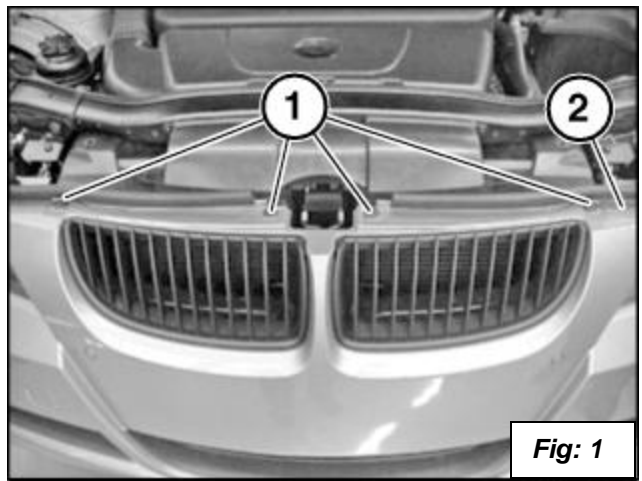

Fig: 1
3. Remove the front bumper. Start by removing four Torx screws (1) from bumper trim (2) as shown in **figure 1**.